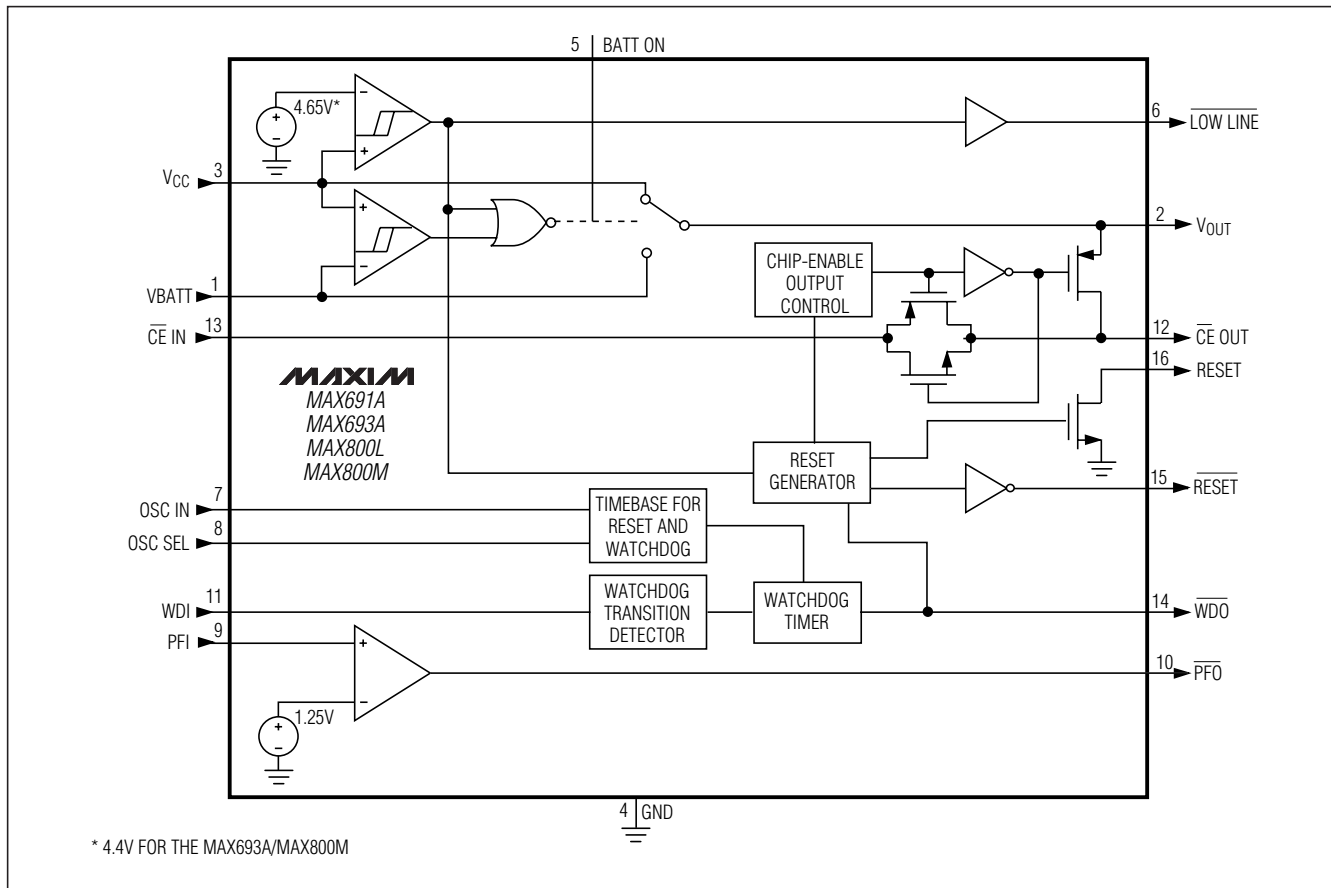

Figure 4. MAX691A/MAX693A/MAX800L/MAX800M Block Diagram
The MAX691A/MAX693A/MAX800L/MAX800M provide internal gating of chip-enable (CE) signals to prevent erroneous data from being written to CMOS RAM in the event of a power failure. During normal operation, the CE gate is enabled and passes all CE transitions. When reset is asserted, this path becomes disabled, preventing erroneous data from corrupting the CMOS RAM. All these parts use a series transmission gate from  $\overline{\text{CE}} \text{ IN}$  to  $\overline{\text{CE}} \text{ OUT}$  (Figure 4).